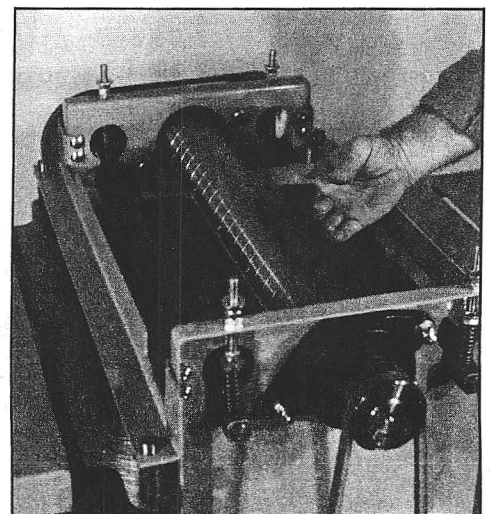

Fig. 10
5. After both ends of the gib have been unlocked, grasp the end of the gib and lift it out of the slot. (fig. 10)